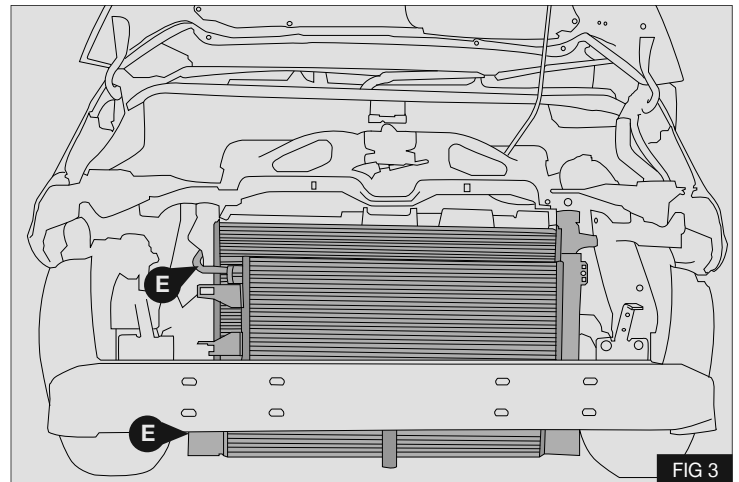

FIG 3
7. Disconnect AC (E) hoses from condenser (cover ends). - Fig 3